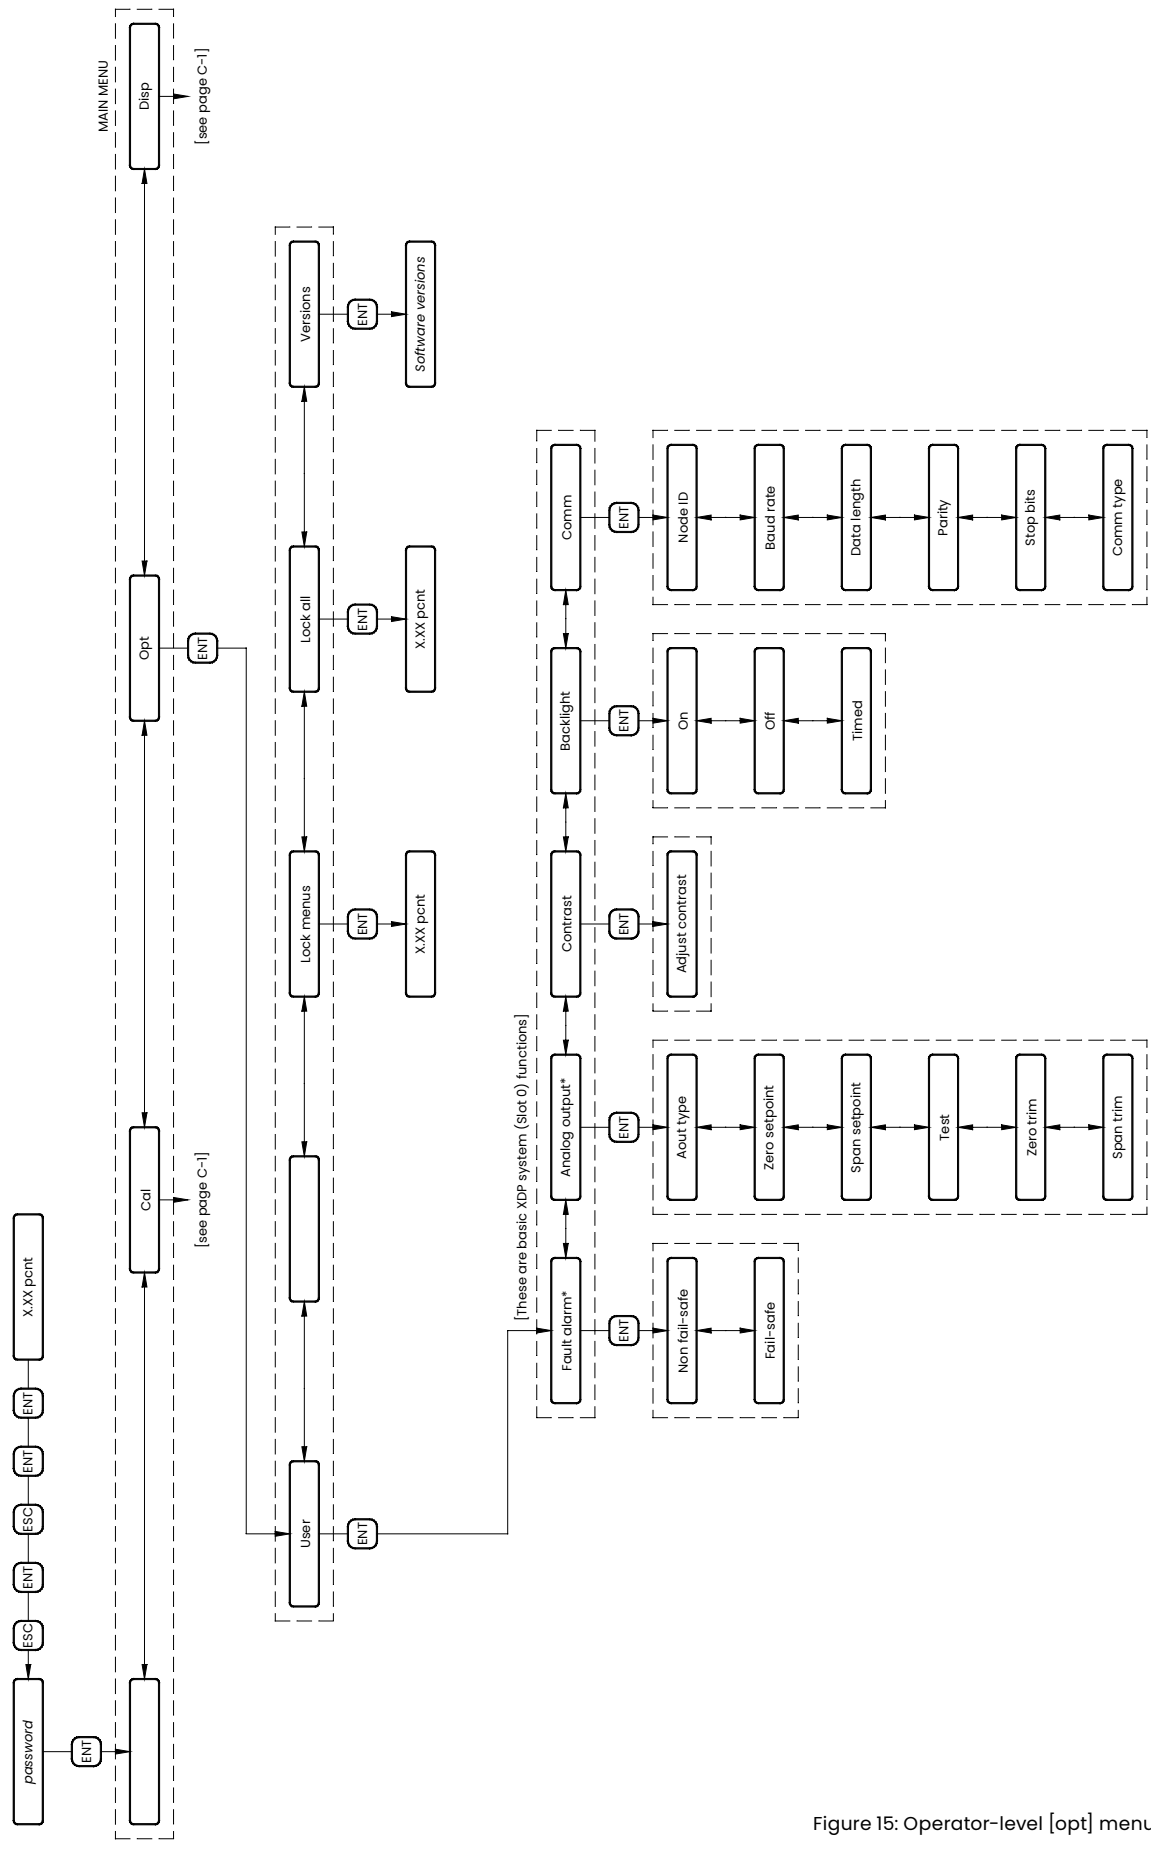

Figure 15: Operator-level [opt] menu map
- Operator-level [opt] menu map "*Figure 15*" on page 45